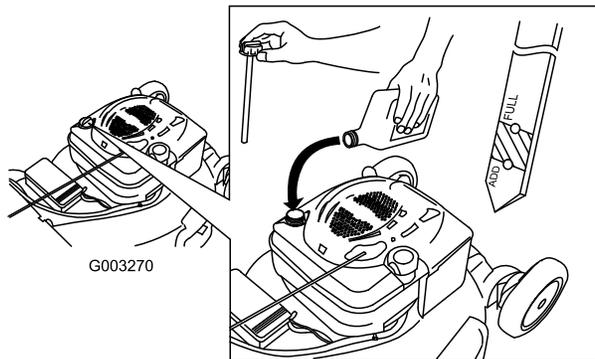

Figure 37
4. **Slowly** pour oil into the oil fill tube until the oil level reaches the Full line on the dipstick (Figure 37). **Do not overfill.** (Max. fill: 20 oz. (0.59 l), type: SAE 30 detergent oil with an API service classification of SF, SG, SH, SJ, SL, or higher.)